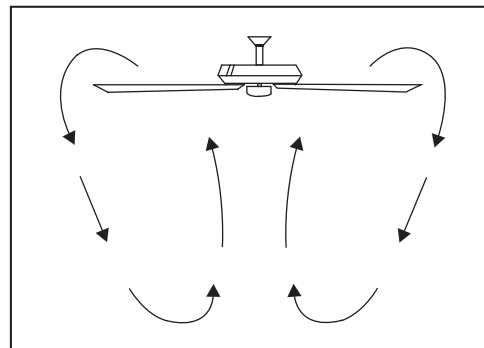

Figure 19
**Cool weather** - (Clockwise direction) An upward air flow moves warm air off the ceiling as shown in Figure 19. This allows you to set your heating unit on a lower setting without affecting your comfort.